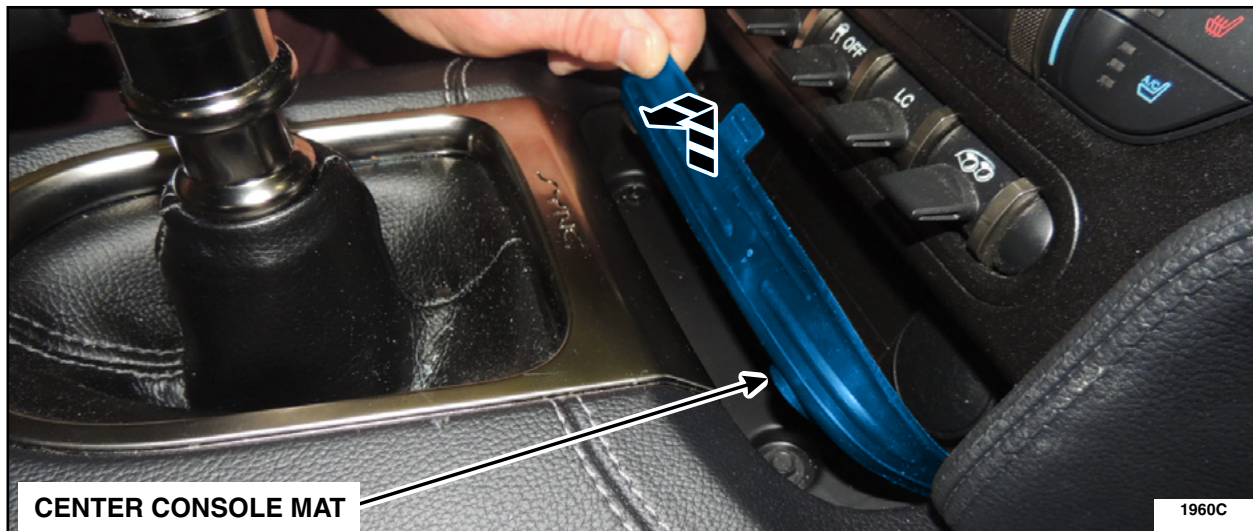

FIGURE 2
2. Remove the center console mat. See Figure 2.